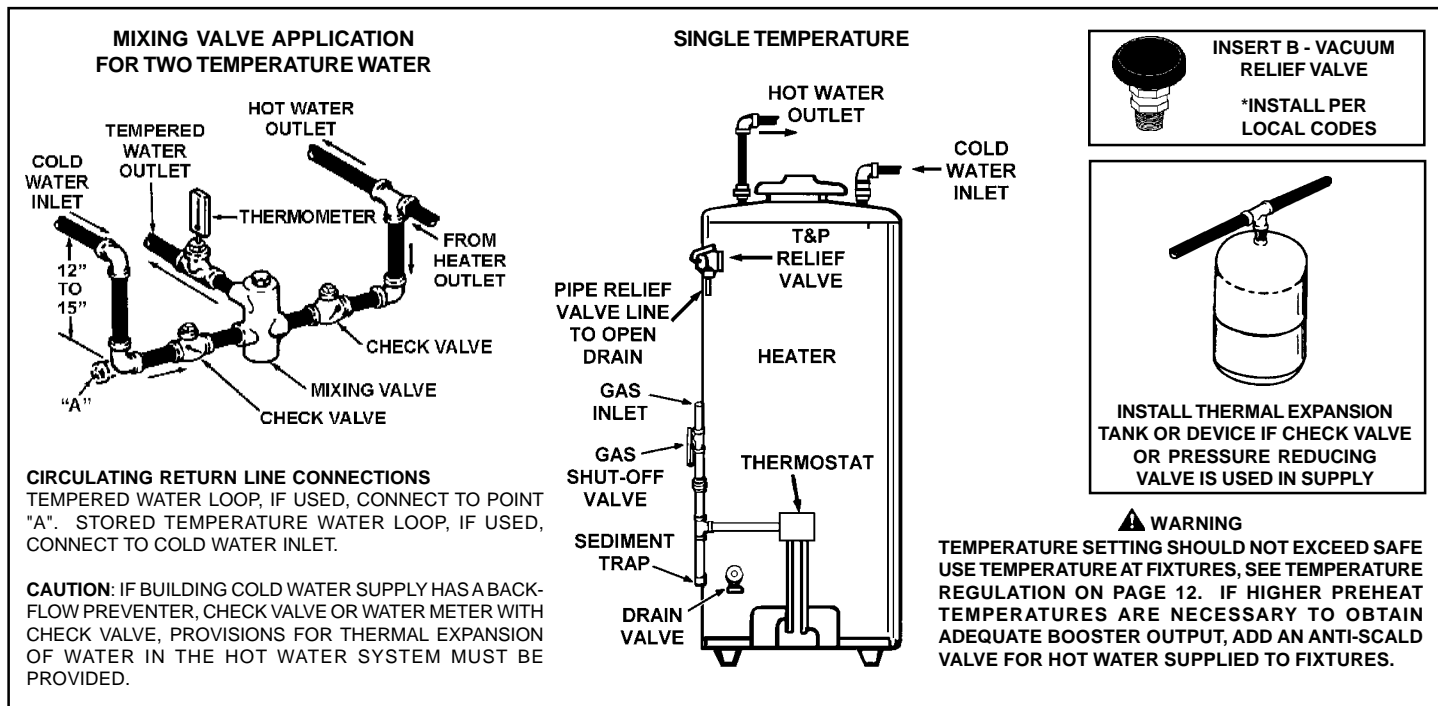

FIGURE 4
4. When the system requires water for space heating at temperatures higher than required for domestic water purposes, a tempering valve must be installed, see Figure 4.
Thermometers should be obtained and field installed as shown, see Figure 4.